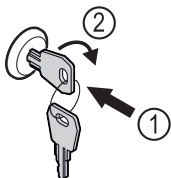

Fig. 176
- Insert key Fig. 176 (1).
- Turn key clockwise by 90° Fig. 176 (2).